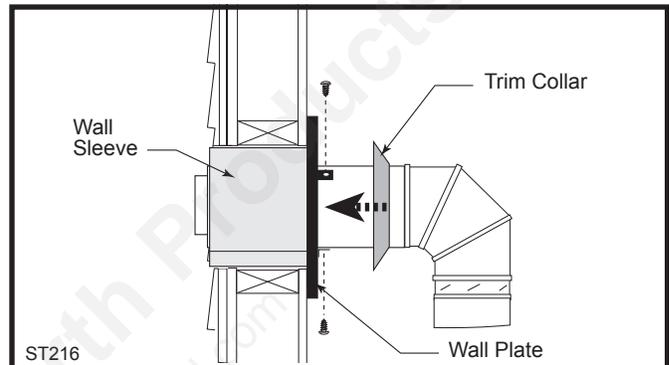

**Fig. 24** Determine the vertical pipe length.
**4. For CFM Vent Pipe only:** If necessary, measure to determine the vertical length (X) of pipe required from the adapter pipe to the wall cutout centerline, including a 2" overlap at the joint. (Fig. 24) use a hacksaw or tin snips to trim the pipe as needed.